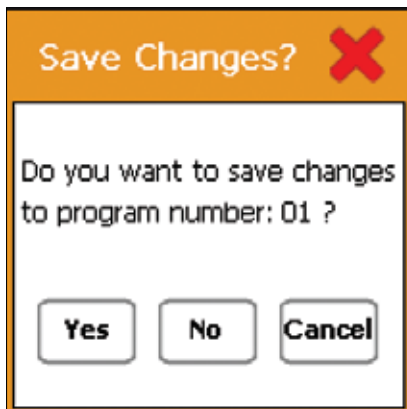

Figure 4-5: Pop-up window to confirm saving the program.
- A pop-up window will appear to confirm saving the program. (Figure 4-5)